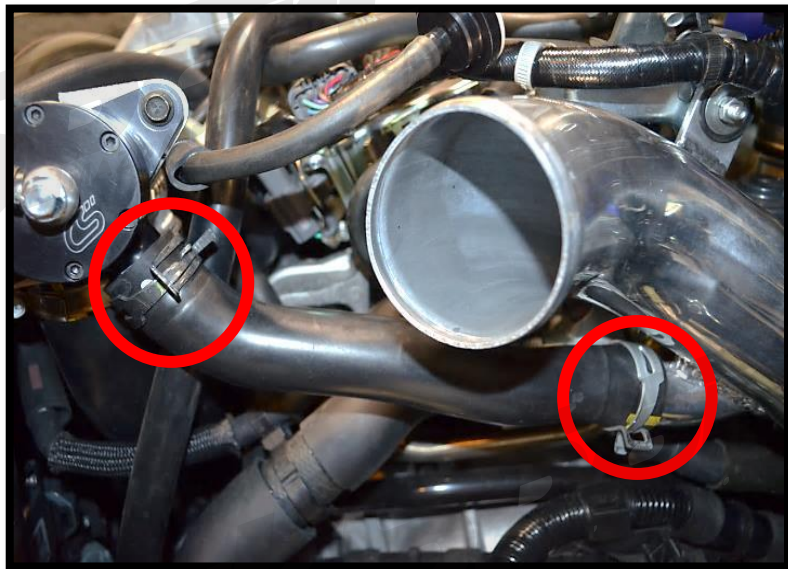

Figure 5f
- g) Install the bypass valve hose.. Reuse the spring clamps if re-installing the factory rubber BPV hose, or use the T-bolt clamps supplied with the optional CorkSport silicone BPV hose (red circles in Figure 5f).